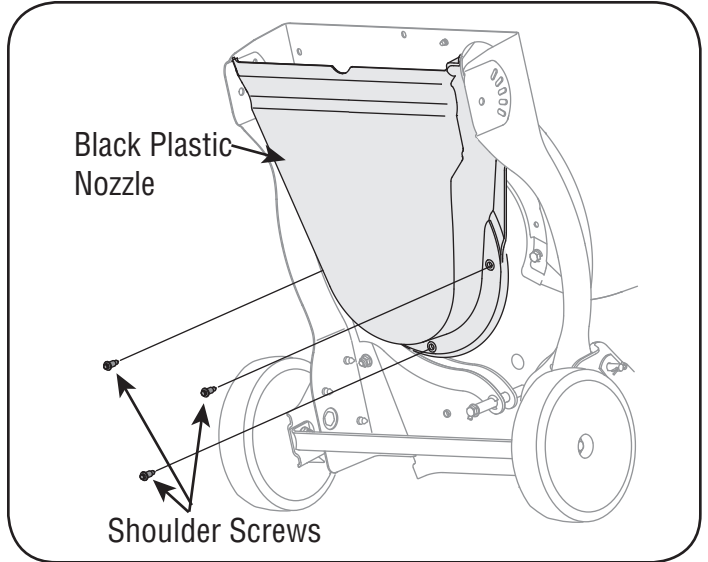

Figure 19
- Carefully tilt and support the unit up to provide access underneath to the nozzle mounting hardware and impeller. Remove the three shoulder bolts securing the black plastic lower flail housing to the lower housing. Refer to Figure 19.